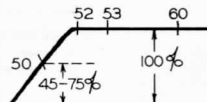

FIG. 6
A14, A15	Remove the .001MFD capacitor from point (F) to pin 1 of V4. Connect a 300Ω, ½ watt carbon resistor from point (F) to chassis. Adjust A14 and A15 to obtain response curve similar to Fig. 6. Repeat steps 13, 14 and 15 until no further improvement is noted. Remove the 300Ω resistor and the detector probe between point (F) and chassis. Replace V3 in its socket.